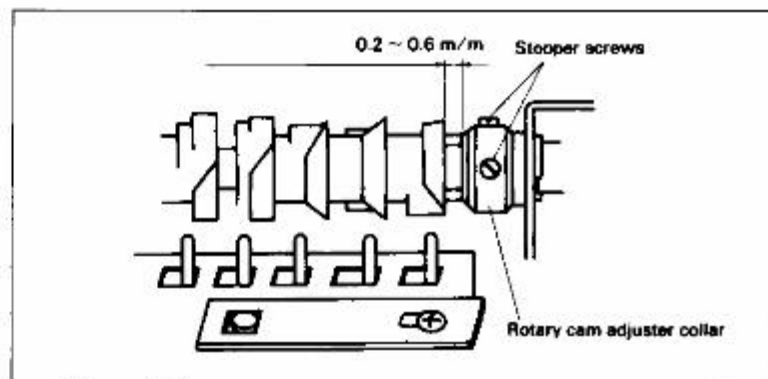

Fig. 6-3
2. Take the clearance of 0.2—0.6 mm (TYP. 0.3 mm) between the rotary cam and the rotary cam adjuster collar, then fasten the two rotary cam adjuster collar stopper screws securely. (Fig. 6-3)